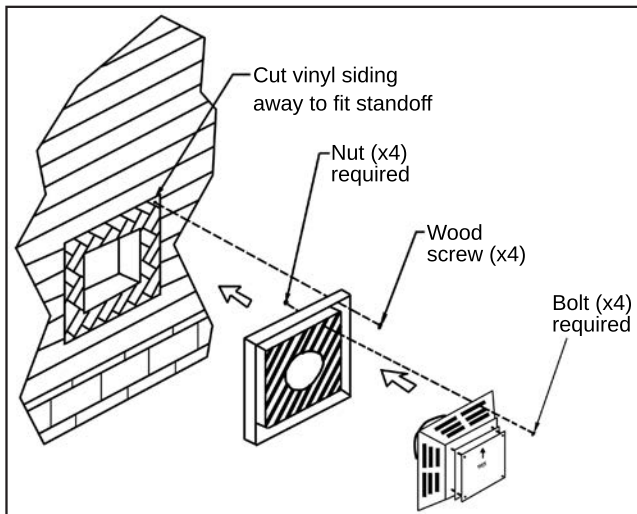

Figure 40: Installing Vent Cap with Vinyl Siding Stand-Off.
- (a) The four (4) wood screws provided should be replaced with the appropriate fasteners for stucco, brick, concrete, or other types of siding.
- (b) For buildings with vinyl siding, a vinyl siding standoff, should be installed between the vent cap and the exterior wall (see Figure 40). Attach the vinyl siding standoff to the horizontal termination. The vinyl siding standoff prevents excessive heat from possibly melting the vinyl siding material. Note that the horizontal vent termination bolts onto the flat portion of the vinyl siding standoff (shaded area in Figure 40), so that an air space will exist between the wall and the vent termination.